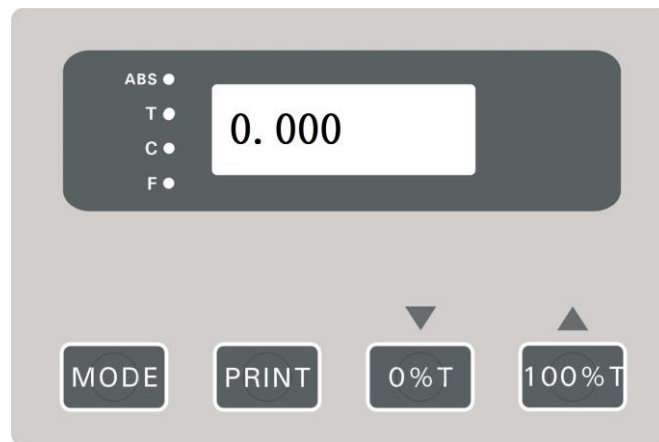
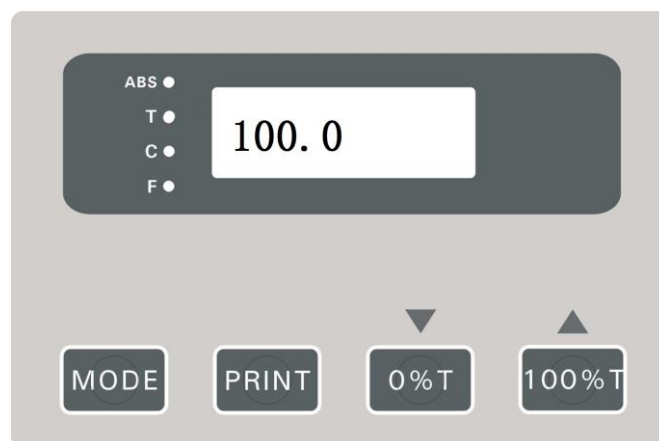

Fig.1-10
Fig.1-11
- a. When in **A** or **T** mode, close the sample compartment, press the key and it will read 0.000 (Fig.1-10) or 100.0 (Fig.1-11).